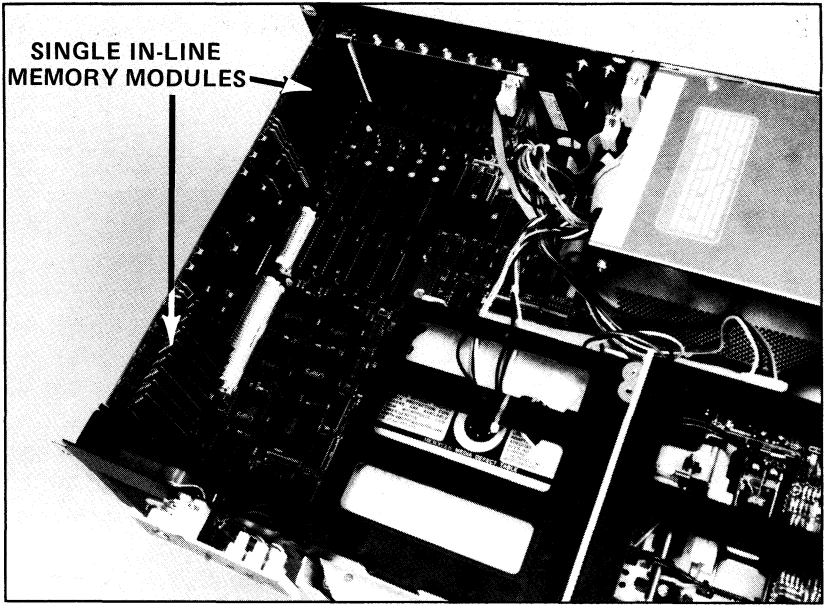

Figure 2-4. Location of the Single In-line Memory Modules (SIMMs)
3. Locate the memory sockets on the memory card (Figure 2-4). Install the SIMMS in the locations given below: